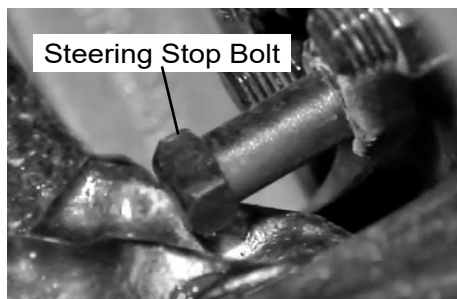

Figure 1 – Inspecting Stop Bolt
3. Visually inspect the steering stop bolts to see if they are bent or otherwise damaged (refer to Figure 1).